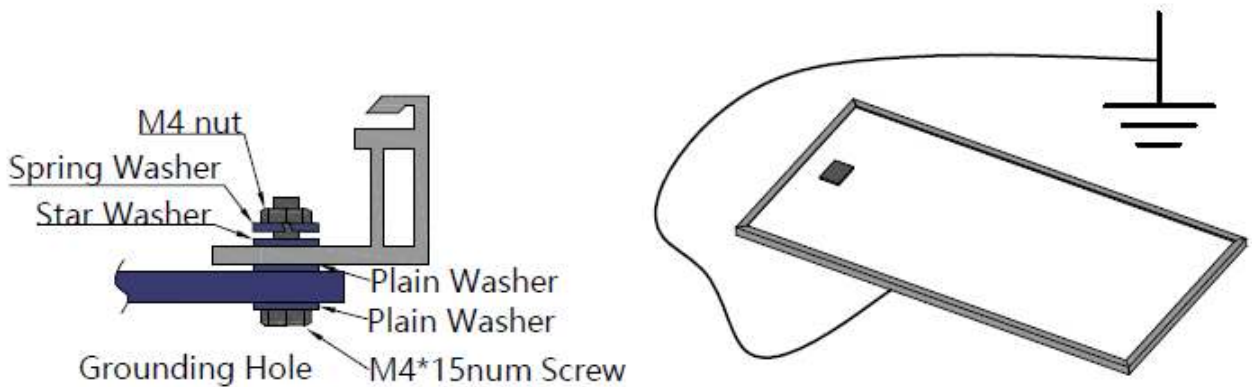

Figure 8: The graph of Grounding
- e) All module frames and mounting racks must be properly grounded in accordance with local and national electrical codes. Attach the equipment grounding conductor to the module frame using the hole and hardware provided. Note that a stainless steel star washer is used between the ground wire and module frame (see Figure 8 below). This washer is used to avoid corrosion due to dissimilar metals. Tighten the screw securely.